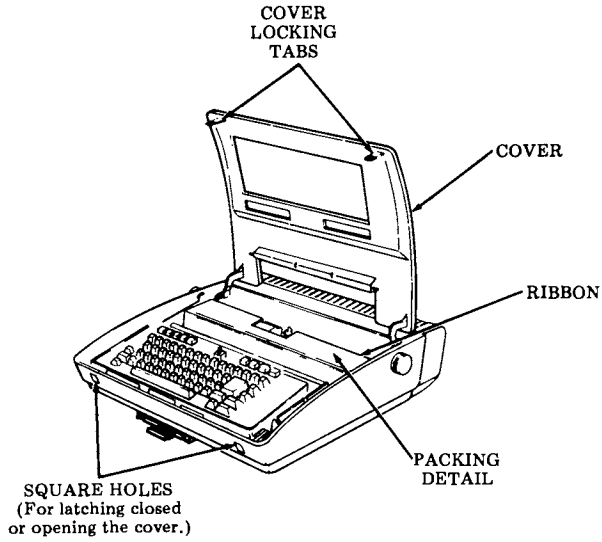

Fig. 2—Packing Detail
3.05 Depress the KP set cover locking tabs on the lower front of the cabinet and lift the cover. Remove the ribbon and packing detail securing the print head in place (Fig. 2).